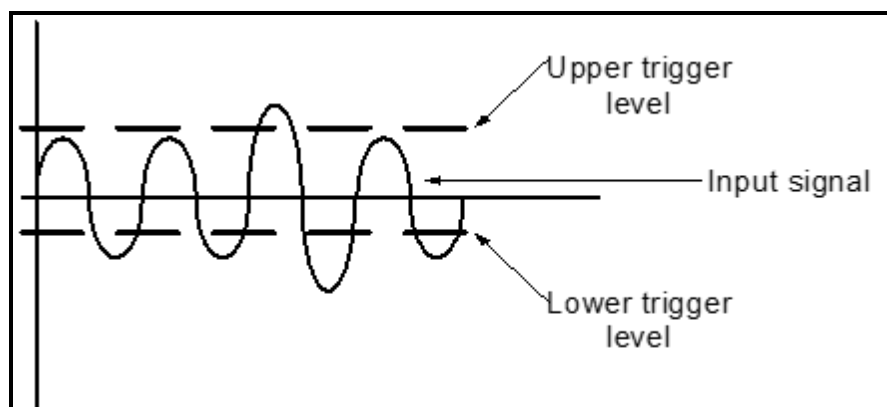

FIGURE 7.8
- 7.8 FIGURE 7.8 below shows the input to an inverting Schmitt trigger. Redraw the input wave and directly below it draw the output from the Schmitt trigger.